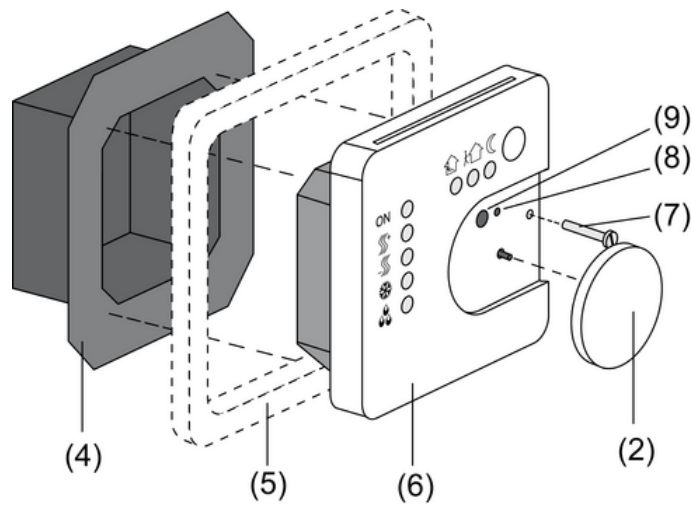
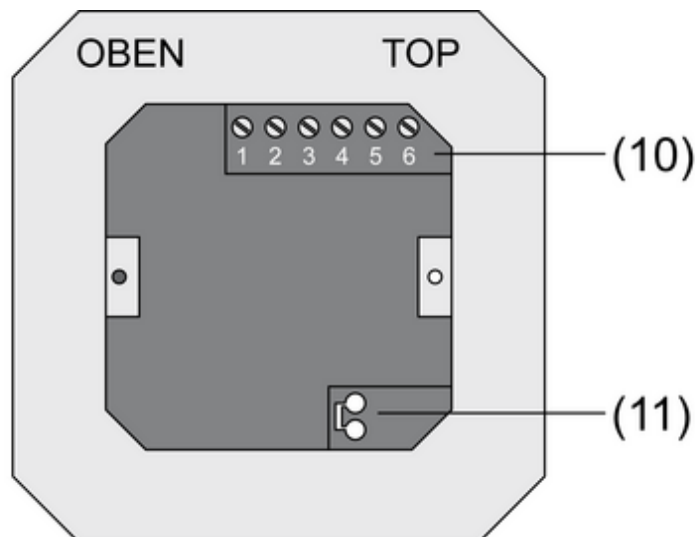
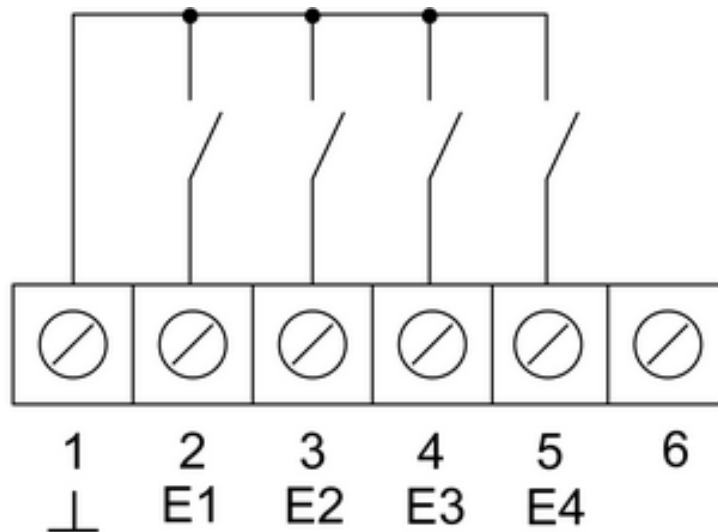
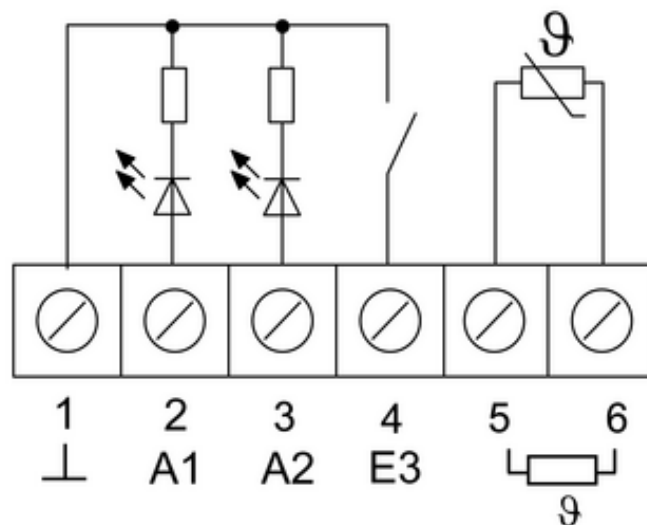

Figure 2
Figure 3
Figure 4
Figure 5
- (4) Terminal insert
- (5) Design frame
- (6) Electronics cover
- (7) Retaining screw
- (8) Programming LED
- (9) Programming button
- Isolate terminal insert (4) from electronic insert (6) (Figure 2).
- Connect the bus line to the connection terminal (11) in the terminal insert (Figure 3).
- Binary inputs **E1...E4**: Connect window contacts, NO or NC buttons to the terminals **1** and **2...5** (Figure 4) of the terminal strip (10) (Figure 3).
- Binary inputs **A1...A2**: Connect the LED or electronic relay to the terminals **1** and **2, 3** (Figure 5) of the terminal strip (10) (Figure 3).
- Connect the external temperature sensor to the terminals **5** and **6** (Figure 5) of the terminal strip (10) (Figure 3).
- Insert terminal insert (4) (Figure 2) in flush-mounted appliance box. Note label **OBEN / TOP**. The bus connection (11) must be to the right (Figure 3).
- Fit design frame (5) on terminal insert (4) (Figure 2).
- Insert the electronics cover (6) into the terminal insert (4) in the correct orientation (Figure 2).
- Pull off adjustment dial (2) (Figure 2).
- Fasten the electronics cover with the locking screw (7) (Figure 2).
- Refit adjustment dial (2) (Figure 2).
- Press the programming button (9) (Figure 2).
The programming LED (8) is illuminated (Figure 2).
The programming LED (8) is extinguished (Figure 2).